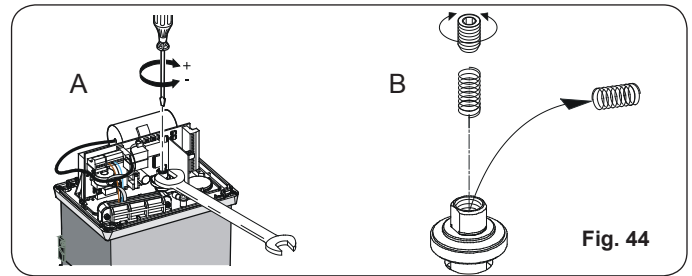

Fig. 44
- Keep the motor shaft locked with a wrench and turn the clutch adjustment screw with an Allen wrench or screwdriver as shown in Fig. 44 Ref. A.
- ⇒ The operator is supplied as standard with a clutch adjustment spring for gates up to 2200 lbs. For heavier gates, use the supplied alternative spring. For spring replacement instructions, see Fig. 44 Ref. B.